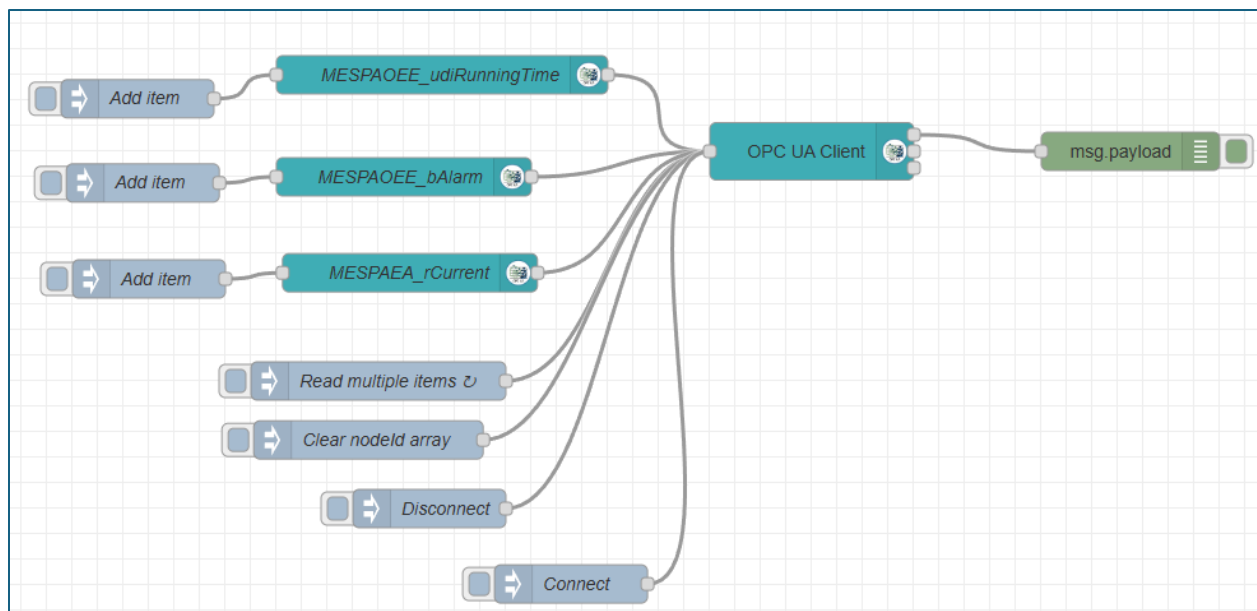

Figure 7 - Node-red flow implemented to access three PLC signal via OPC UA
- Later, the test was scaled up to process three signals, as seen in Figure 7.